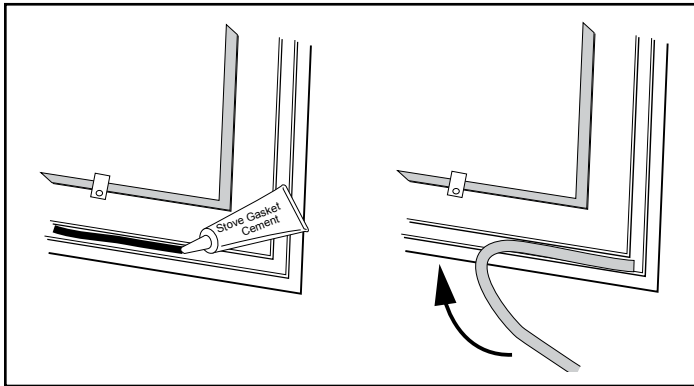

Figure 3.5 - Lay a bead of gasket silicone or cement then press gasket in place.
- Lay an unbroken 1/8" (3 mm) bead of silicone or cement in the newly-cleaned channel, Figure 3.5.
- Starting at one end, press the gasket into the channel, Figure 3.5. Ensure a good joint where the gasket meets before trimming any excess. Do not overlap the gasket ends or leave ends with ragged edges.